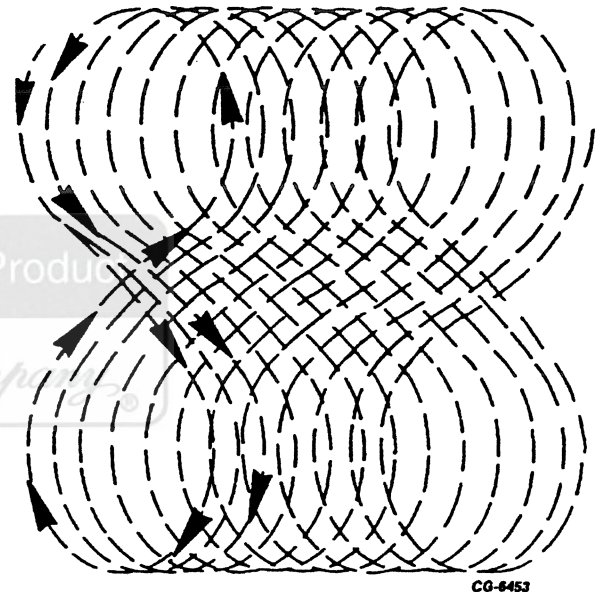

Figure 9.46. Pattern of Strokes Used for Flat Lapping
To equalize the wear in the lapping block, the series of figure eight strokes should start at one side and progress across the block as shown in Figure 9.46.
2. Lap number 1 and 2 (face to face) together, using the figure eight pattern (**Figure 9.46**). Then take 1 and 3; and finally 2 and 3.